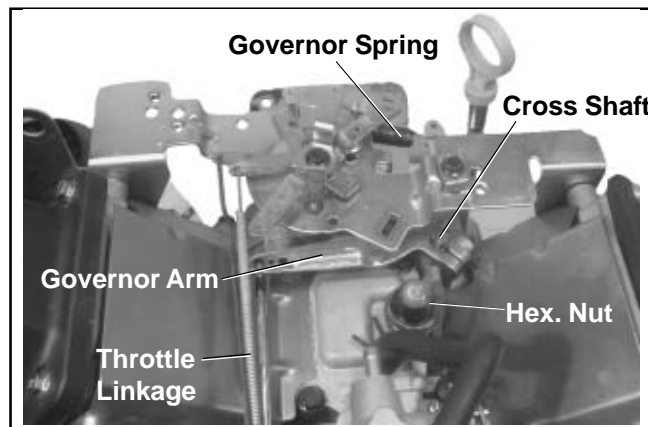

Figure 5-9. Governor Linkage.
Reassemble the carburetor using the following steps. See Figure 5-9.
- One end of the cross shaft protrudes through the crankcase. The rotating action of the cross shaft is transmitted to the throttle lever of the carburetor through the external throttle linkage. See Figure 5-9.
Make this adjustment whenever the governor arm is loosened or removed from the cross shaft. See Figure 5-9 and adjust as follows: